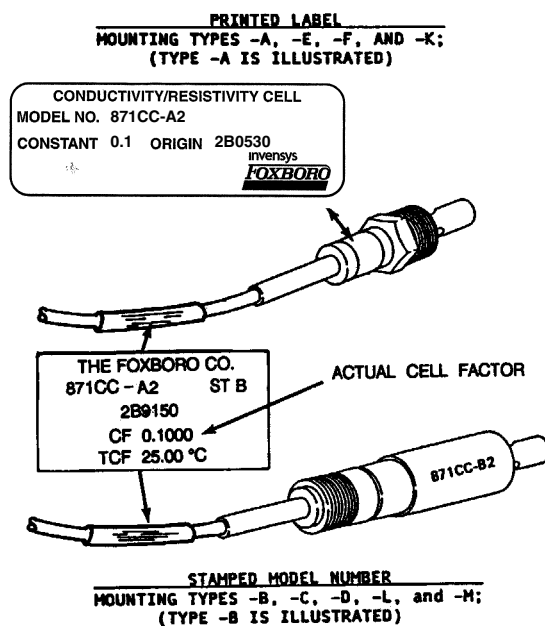

Figure 25. Sensor Identification
871CC Sensors are stamped with a 4-digit number (such as .1001) which is the cell factor (CF) of that particular cell when tested in our factory. These cells are also stamped with a temperature value (tCF) (such as 24.97°C) which is the temperature where that particular transducer read its theoretical resistance value. See Figure 25. When the sensor is connected directly to the Analyzer, these cell factors may be input directly into the 873RS to correct for these offsets. Alternately, the procedures that follow may be used to determine these offset values, and must be used when additional cable lengths or junction boxes are used with the sensors.